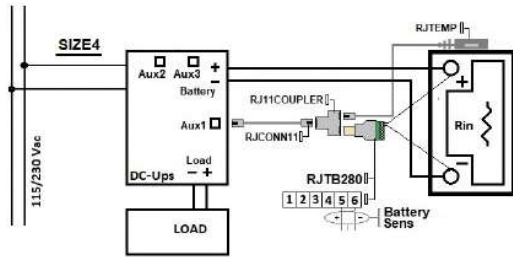

Fig.5
- Battery Sense connection YES; only for the device Size4 (Fig.5)
The Size 4 and Size 5 devices can operate either with or without the battery sense connections. If the battery sense cables are correctly connected as in Fig.5 and 5.1, the device automatically detects them and uses them for the battery internal resistance measurements. In such case the battery cables resistance measurement information (HR40102) is neither needed nor used. This configuration is the one which ensures the maximum measurement accuracy because it is not influenced by the battery cables resistance.